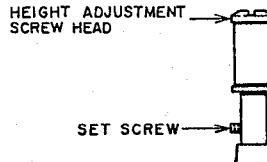

Fig. 4-11
- Slightly loosen the set screw at the lower part of the LOADING LEADERS (L), (R) so that the LOADING LEADER can be adjusted with reasonable tightness. (Refer to Fig. 4-11.)